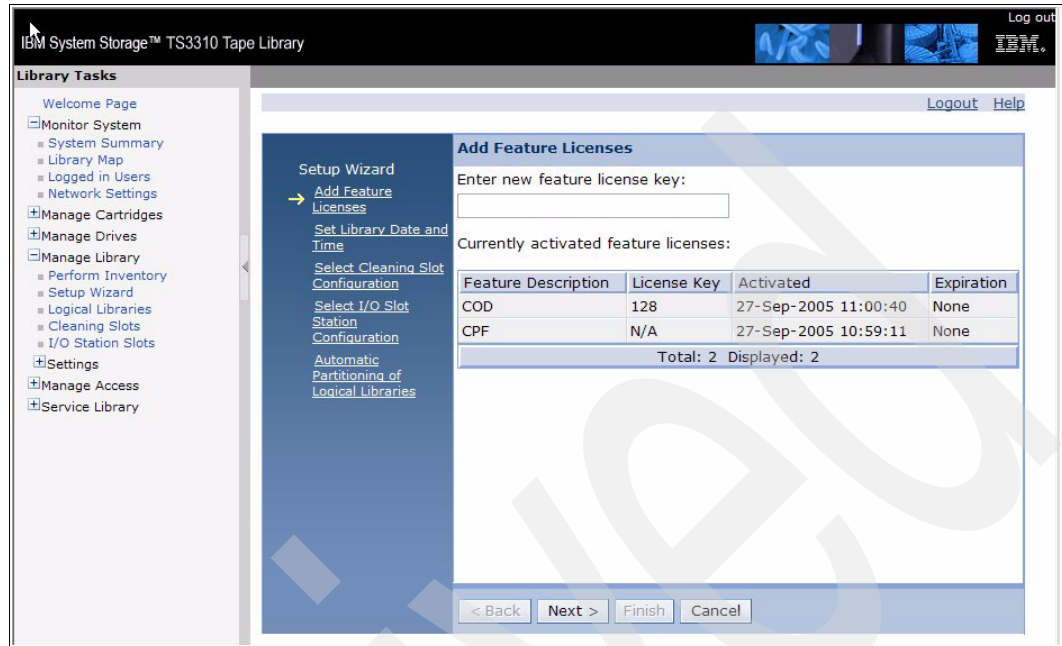

Figure 2-14 IBM TS3310 Setup Wizard
4. With a new library, you can use the configuration wizard to automate some of the initial setup definitions. Select **Manage Library** → **Setup Wizard**; see Figure 2-14.